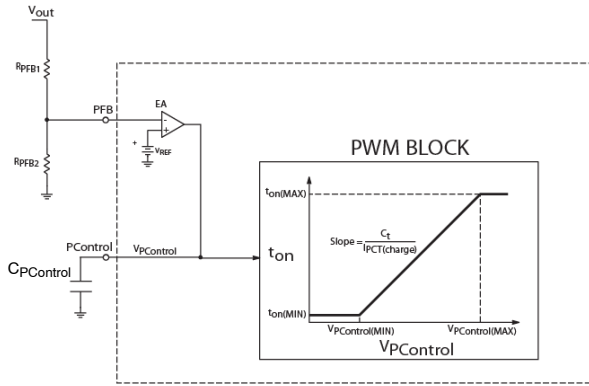

Figure 19. Error Amplifier and On Time Regulation Circuits
The NCP1927 error amplifier (EA) consists of an operational transconductance amplifier (OTA) with the inverting input connected to the PFB pin and the output connected to the PControl pin to regulate the output voltage. It features a typical transconductance (g_m) of 200 μ S and a maximum output ($I_{EA(SRC)}$ and $I_{EA(SNK)}$) of $\pm 20 \mu$ A (typical). The non-inverting input is connected internally to a voltage reference (V_{REF}) with a typical value of 2.5 V $\pm 1.5\%$ over process and temperature. During normal operation, the voltage on the PControl pin varies between $V_{PControl(MIN)}$ (typically 0.6 V) and $V_{PControl(MAX)}$ (typically 5.6 V). A simplified diagram of the OTA circuit is shown in Figure 19.
This creates a ripple on the output with frequency equal to twice the line frequency (f_{line}). Since the on time must remain constant during each ac line cycle to maintain good power factor correction, the EA must reject the output ripple. This is commonly achieved by setting the regulation bandwidth below 20 Hz. A type 1 compensation network is typically used for simplicity, as it only requires a single capacitor ($C_{PControl}$) connected between the PControl pin and ground (see Figure 19). For a type 1 network, $C_{PControl}$ is calculated using Equation 10.